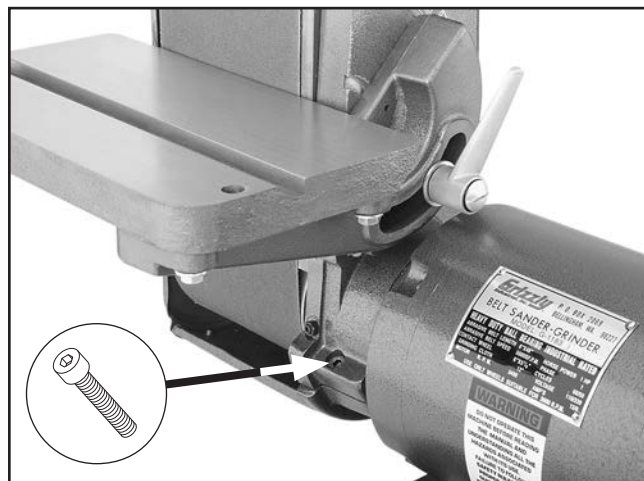

Figure 16. Example of sanding belt assembly rotated to vertical position.
6. Loosen sanding belt angle lock screw (see **Figure 16**), rotate sanding belt assembly to vertical position, then tighten lock screw to secure.